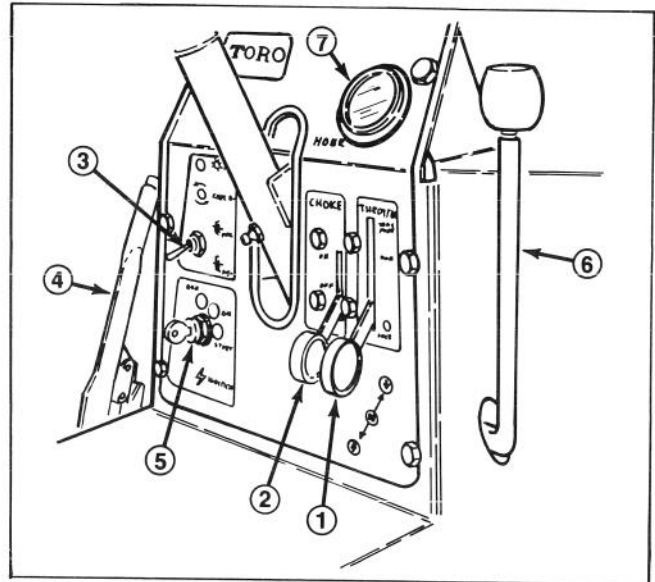

Figure 21
**Ignition Switch (Fig. 21)** — The ignition switch, which is used to start and stop the engine, has three positions: OFF, RUN and START. Rotate key clockwise — START position — to engage starter motor. Release key when engine starts. The key will move automatically to the ON position. To shut engine off, rotate key counterclockwise to the OFF position.
**Choke (Fig. 21)** — To start a cold engine, close carburetor choke by moving choke control upward to the ON position. After engine starts, regulate choke to keep engine running smoothly. As soon as possible, open the choke by pulling it downward to the OFF position. A warm engine requires little or no choking.
**Throttle (Fig. 21)** — Throttle is used to operate engine at various speeds. Moving throttle upward increases engine speed downward decreases engine speed. The throttle controls the speed of the reel blades and, in conjunction with traction pedal, controls ground speed of the engine. Position control in MOW for normal cutting. To attain TRANSPORT, move control to MOW, push control to right, then up to transport.
**Cutting Unit Lift Lever (Fig. 21)** The lift lever has three positions: LOWER, RAISE, and NEUTRAL. To lower cutting units to the ground, move lift lever forward. When lowering cutting units, make sure hydraulic cylinder is completely retracted before releasing lift lever. To raise cutting units, pull lift lever rearward to the RAISE position. Cutting units will not operate unless cylinder is retracted or when lifted. To decrease play in lever, tighten retaining locknut.
**Reel Drive Switch (Fig. 21)** — The switch has two positions: ENGAGE and DISENGAGE. Toggle switch engages electromagnetic clutch to drive reels. Amber light on dash indicate when reels are rotating.
**Hour Meter (Fig. 21)** — Indicates the total hours of machine operation. The Hour Meter starts to function whenever the key switch is rotated to "ON".
**Parking Brake** (Fig. 21) — Whenever the engine is shut off, the parking brake must be engaged to prevent accidental movement of the machine. To engage the parking brake, pull back on lever.